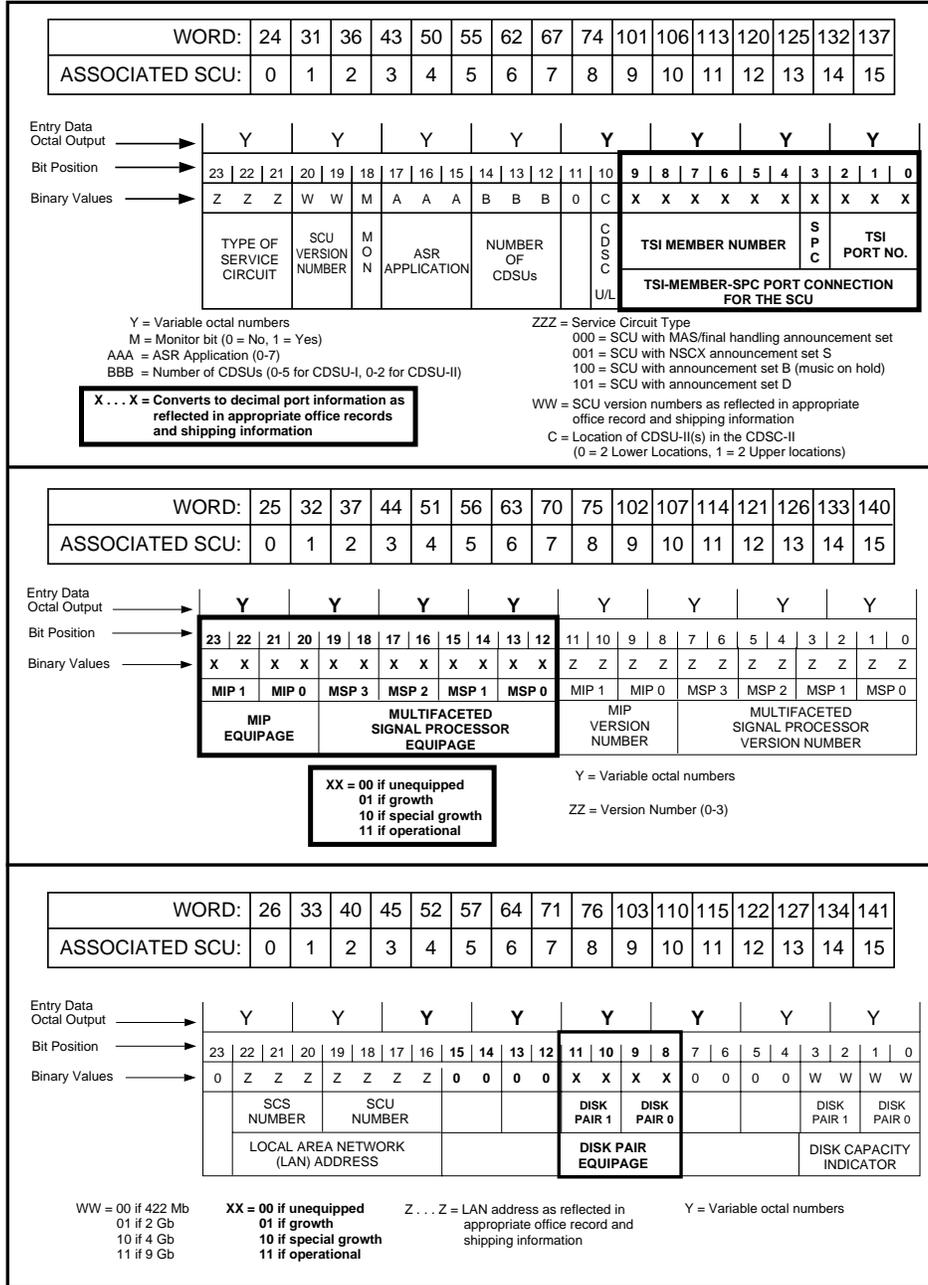

Figure 2. Words Used to Determine TSI Information, MSP Equipage, and Disk Pair Equipage
3. Using the TTY output and Figure 2, determine the values for each of the items listed in Table A for each applicable SCU. Record these values in the appropriate columns of Table A for future reference.